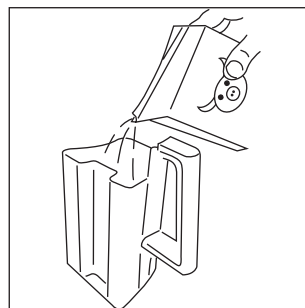

Fig.19
- Fill the container with about 100 grams of milk for each cappuccino to be prepared (fig. 19). **Never exceed the MAX level (corresponding to about 750 ml) marked on the container.** You are recommended to use skimmed or semi-skimmed milk at refrigerator temperature (about 5° C).
- Fill the container with the quantity of milk you want to prepare (fig.19).